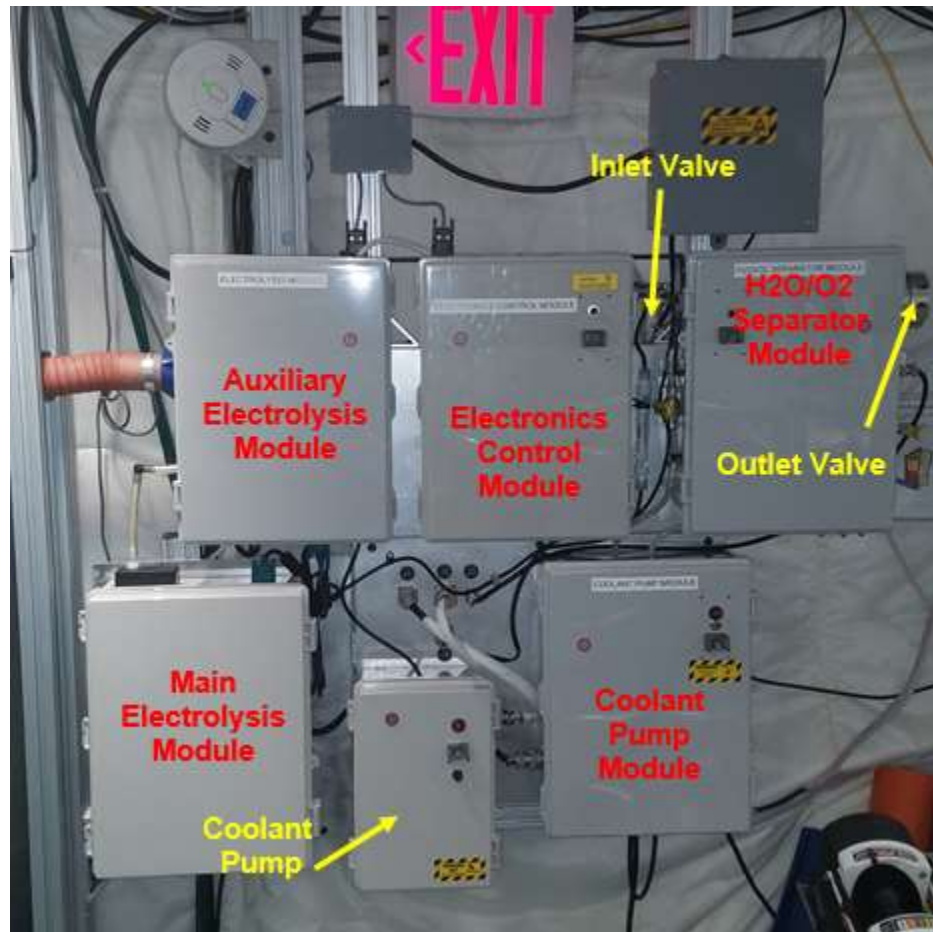

Figure 1: Solid Polymer Electrolysis System
- 1.5 Flip power switch of Coolant Pump to “ON” (see Figure 1).
- 1.6 Unlock both latches on Auxiliary Electrolysis Module and open door (see Figure 1).